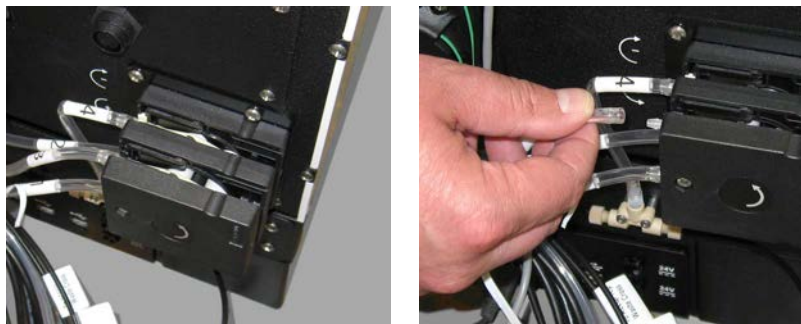

Figure 5-22 Disconnecting the clear tubing
2. Disconnect the upper and lower clear tubing from each peristaltic tube (Figure 5-22).